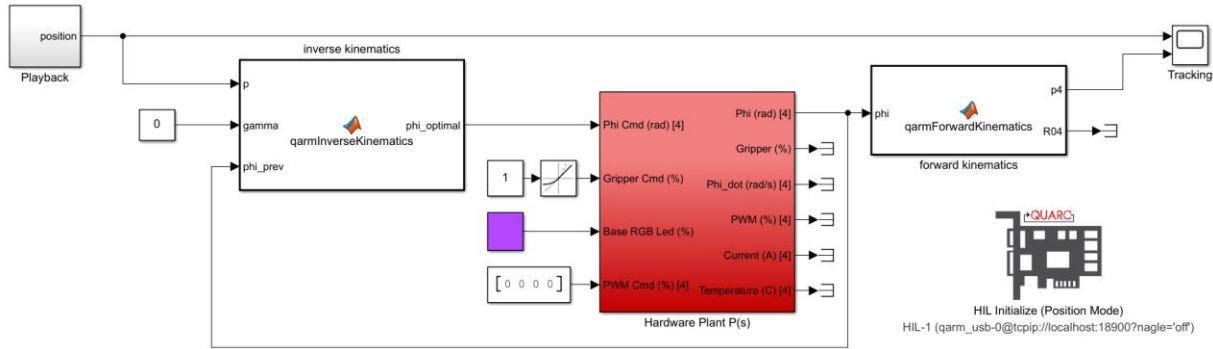

Figure 2.4: Simulink model *TeachPendant_Follow.slx*
1. Open the Simulink model TeachPendant_Follow.slx (Figure 2.4). You will use this model to command the manipulator to follow the waypoints that were learned in the previous section.